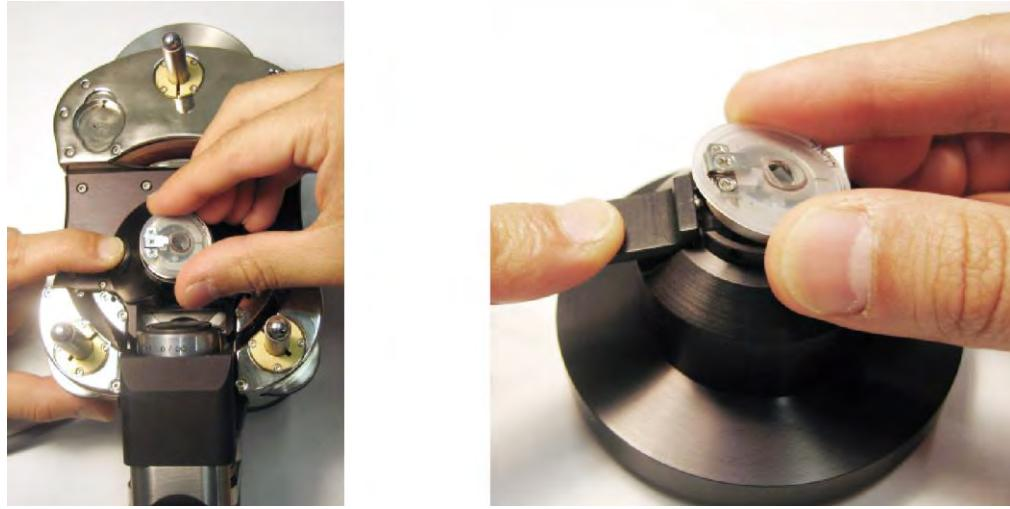

Figure 5.12 Prepare the Cantilever Holder. Figure A Remove from Head. Figure B Place in Holder
2. Remove the spring clip assembly from the head by pressing the lever holding it in place, and seat it in the cantilever holder (See Figure 5.12).